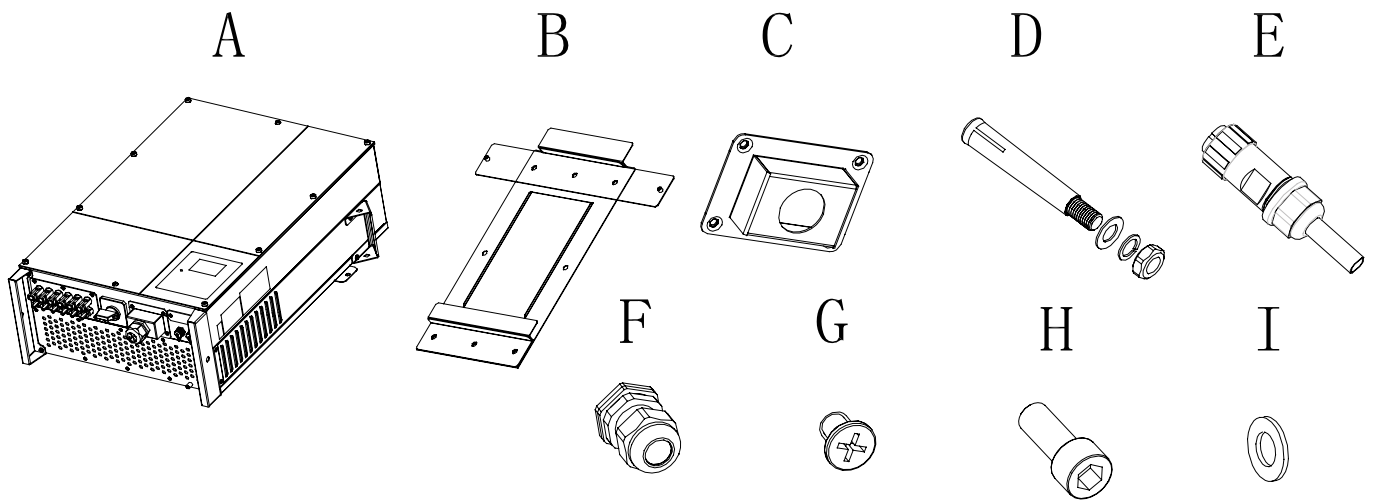

Fig 2.1
- Fix the mounting frame on the wall as the figures shown below, combine as the screws as the Items Fig 2.1 shows (items D)